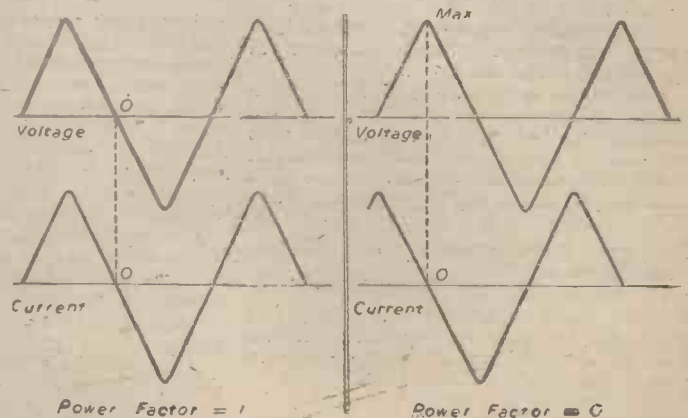

Fig. 3.—Diagrams indicating variation of recovery voltage with power factor.
Fig. 3 shows how the recovery voltage varies with power factor.
Since the system power factor has an important bearing on the severity of the test, as seen in Fig. 3, it is laid down that during testing operations the limits of power factor are 0.15 for circuit breakers up to 500 m.v.a. and 0.30 for circuit breakers of any higher rating.
(2) An alternating component indicated by the difference between the lines AB and CD. The R.M.S. of the A.C. component is taken to be the same as an alternating current wave of constant amplitude, whose maximum value is half the distance between CD and EF. The direct current component has a bearing on the recovery voltage as will be seen from a study of the curves in Fig. 3. In the first three "Break" symmetrical tests and the fourth "Break"—"Make Break"—"Make Break" test, the breaking current in any one of the phases must not include a direct current component of more than 20 per cent. of the A.C. component at the instant of contact separation.